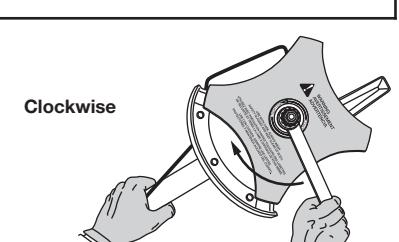

Fig. 14
- Hold the locking rod in place by grasping it next to the shaft housing (Fig. 14).
- While holding the locking rod, loosen the nut on the blade by turning it clockwise with a 1/2 inch closed-end or socket wrench (Fig. 14).